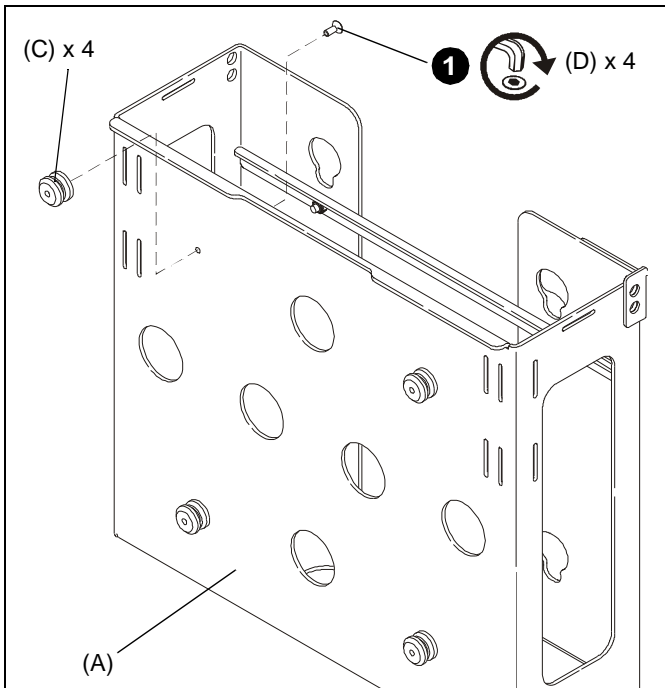

Figure 1
1. Install four mounting buttons (C) to CPU adapter (A) using four 10-24 x 1/2" flat head cap screws (D), and a 1/8" hex wrench (E). (See Figure 1)